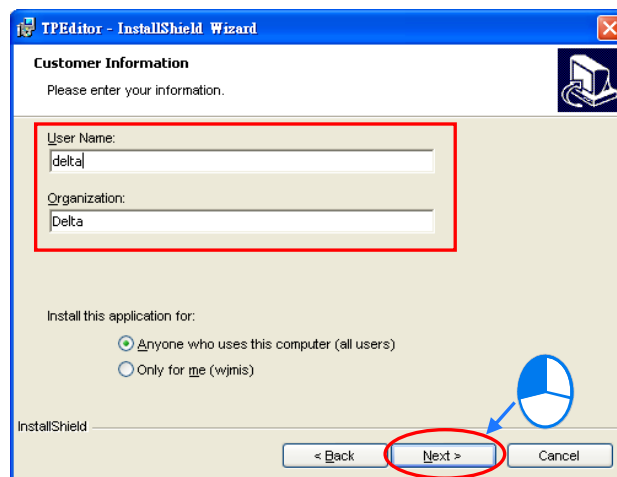

Figure 1-3 Process of installing TPEditor
- (5) Type related information in the **User Name** box and the **Organization** box, and then click **Next**, as shown in Figure 1-3.